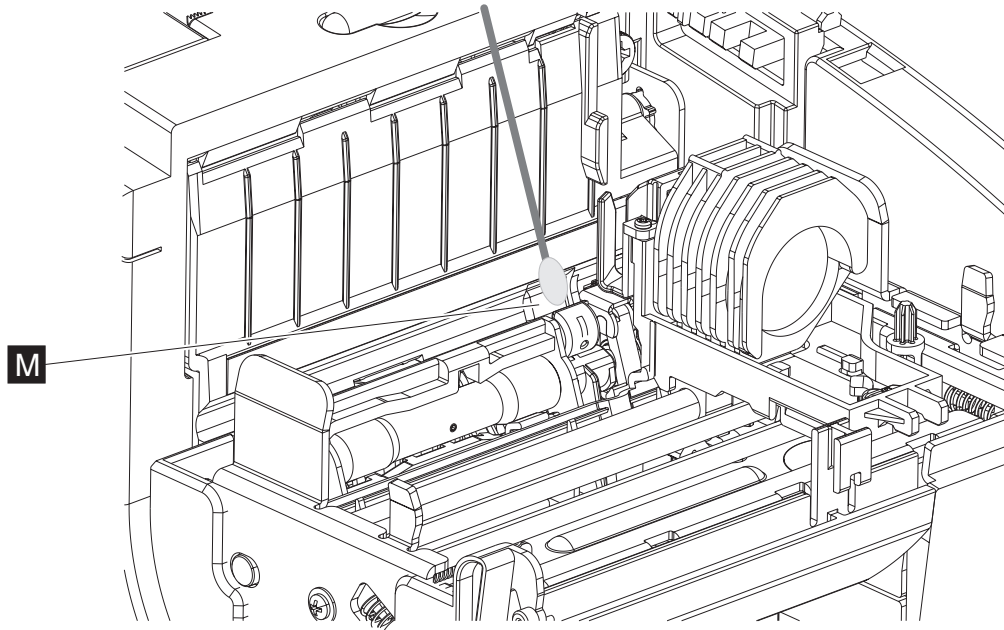

Figure 16. Cleaning the MICR read head
3. Move the carriage to the right until it stops, or as shown in Figure 16 on page 26.
5. Gently wipe the head (see **M** in Figure 16) with the swab several times. Wipe away any residual alcohol with a dry swab.